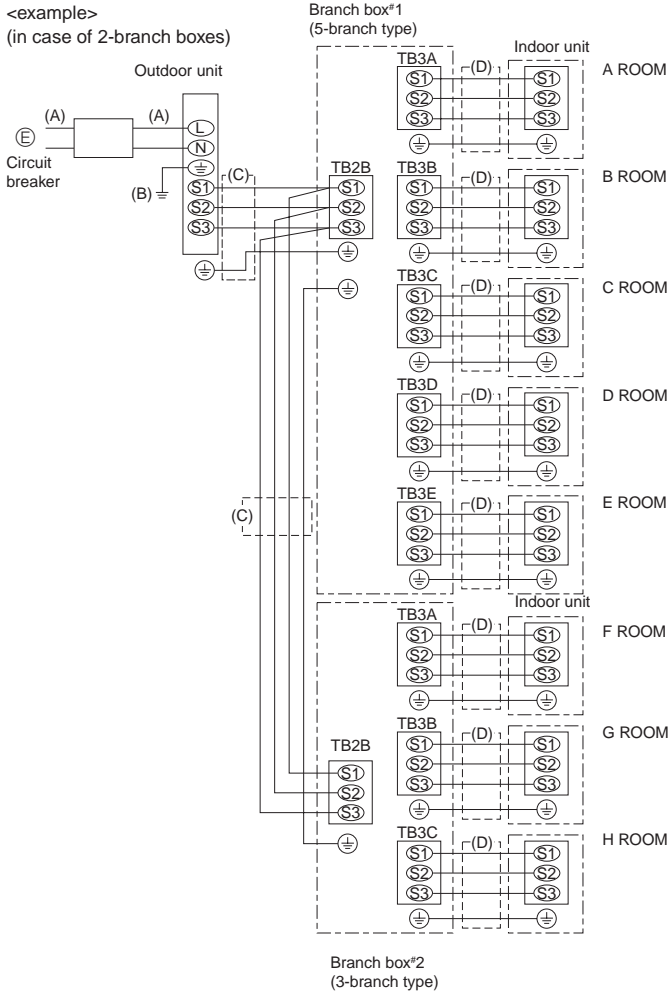

Fig. 9-6
9.2. External wiring procedure (Fig. 9-6)